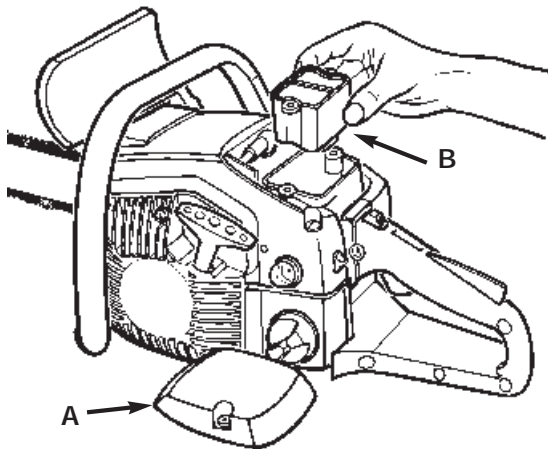

Fig. 31
1. Remove the top cover (A) by loosening the cover retaining screws. Cover will lift off (Fig. 31).
1. Remove air box cover and air filter as shown in Fig. 31.